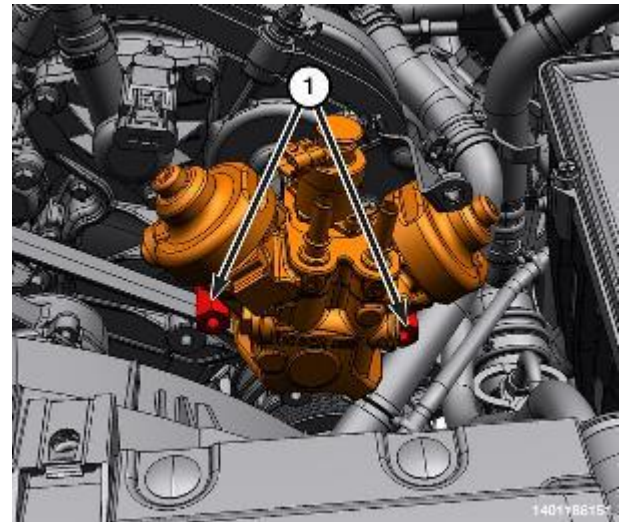

Figure 139 – Fuel Quantity Solenoid Connector and HPFP Upper Bolts
- 76. Remove the upper bolts (1) from the high-pressure pump (Figure 139).